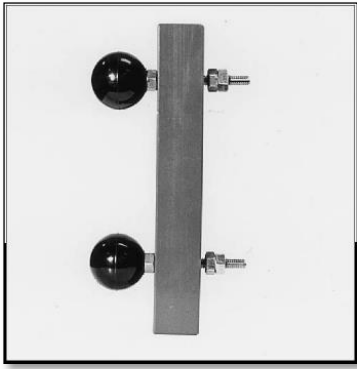

Figure 6-6 Cell Removal Tool
8. Attach the “cell puller tool”, part number RE03197. This tool, shown in Figure 6-6, is available from your local C&D TECHNOLOGIES representative.